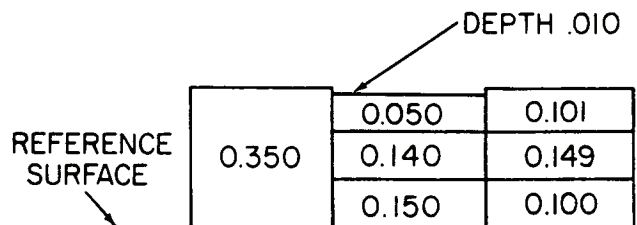
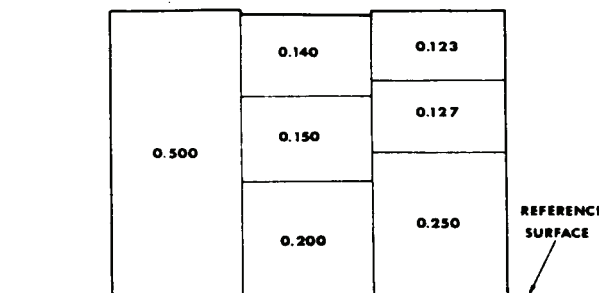

Figure 4. Dial indicating depth gage calibration.
Figure 5. Dial indicating depth gage calibration.
(1) Set up triangular base and three sets of gage blocks to measure a depth of 0.010 inch (fig. 4 and table 3) and for $\frac{1}{2}$ inch depth gage (fig. 5 and table 4). Only center group of blocks need to be changed.